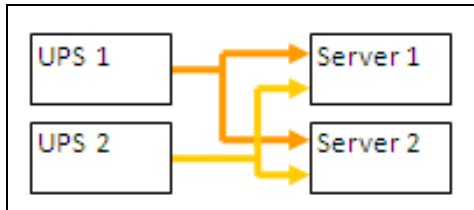
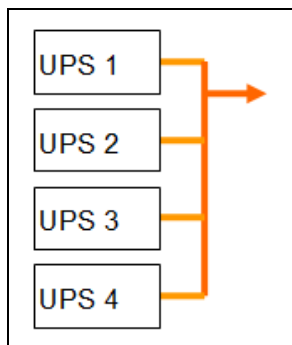

Figure 53. Redundant Supplies
Figure 56. Parallel Redundancy Schema
Figure 53 to Figure 56 illustrate the electrical redundancy topologies.
- **Redundant supplies (such as dual feeds or triple feeds):** Figure 53 illustrates a scenario when two UPSs provide power on one or several multiple-feed servers.